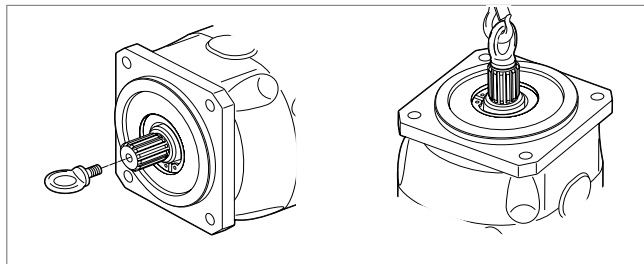

Fig. 4: Installing the eye bolt
- ▶ Make sure that the eye bolt can bear the total weight of the axial piston unit plus 20%. You can lift the axial piston unit as shown in Fig. 4 with the eye bolt screwed into the drive shaft.